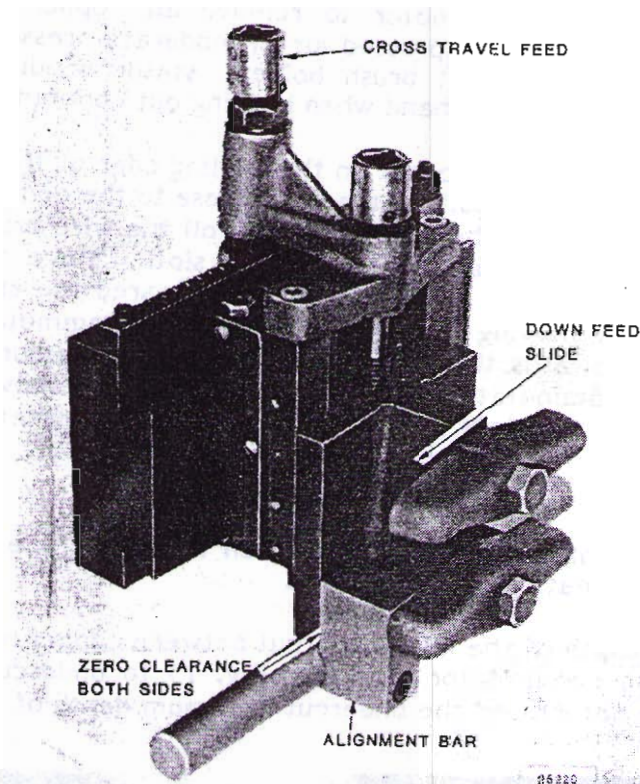

Fig. 14 - Commutator Grinder Alignment Bar Installation
2. Install the grinder with the alignment bar on the adapter as shown in Fig. 14.